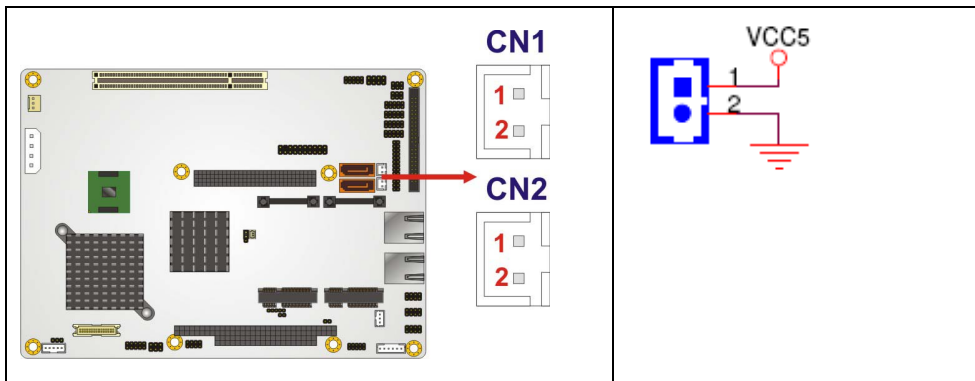

Figure 4-19: SATA Power Connector Locations
- CN Location:** See **Figure 4-19**